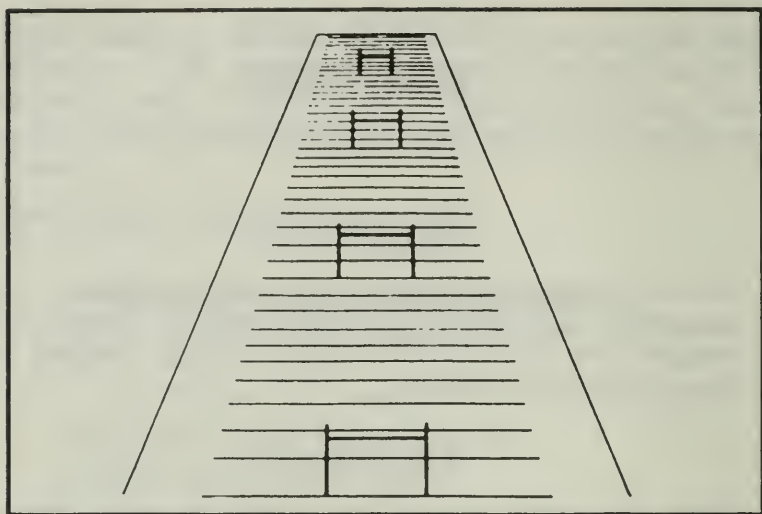

Figure 1. Football field method.
a. Become familiar with the appearance of 100-meter (football-field) intervals on the ground (Figure 1).